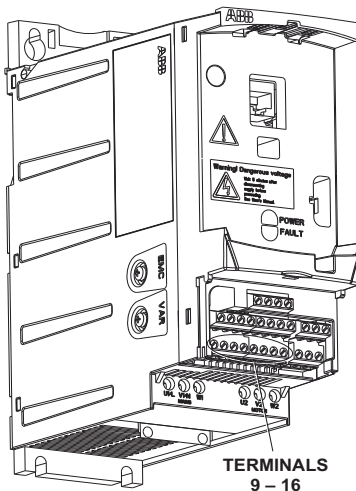

Fig. 41 — ACS320 Terminal Blocks
3. Disconnect the D11 input at terminal 12. The terminals are numbered on the bottom of the block (see Fig. 41 for the location of terminal block that contains terminal 12).